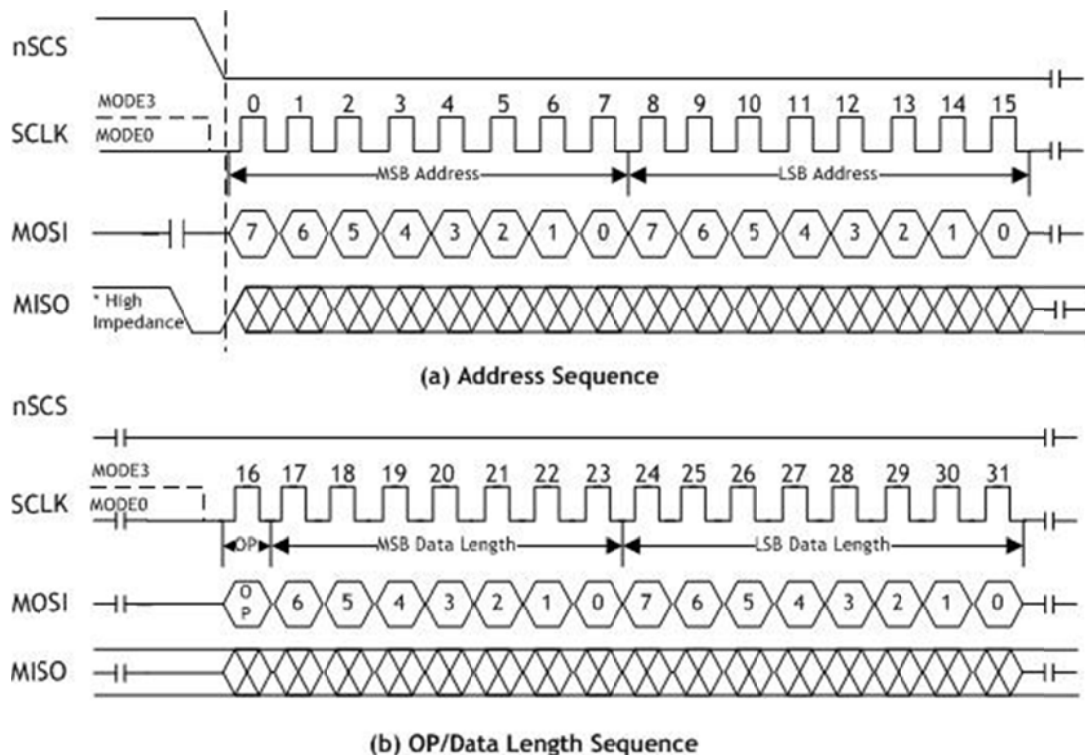
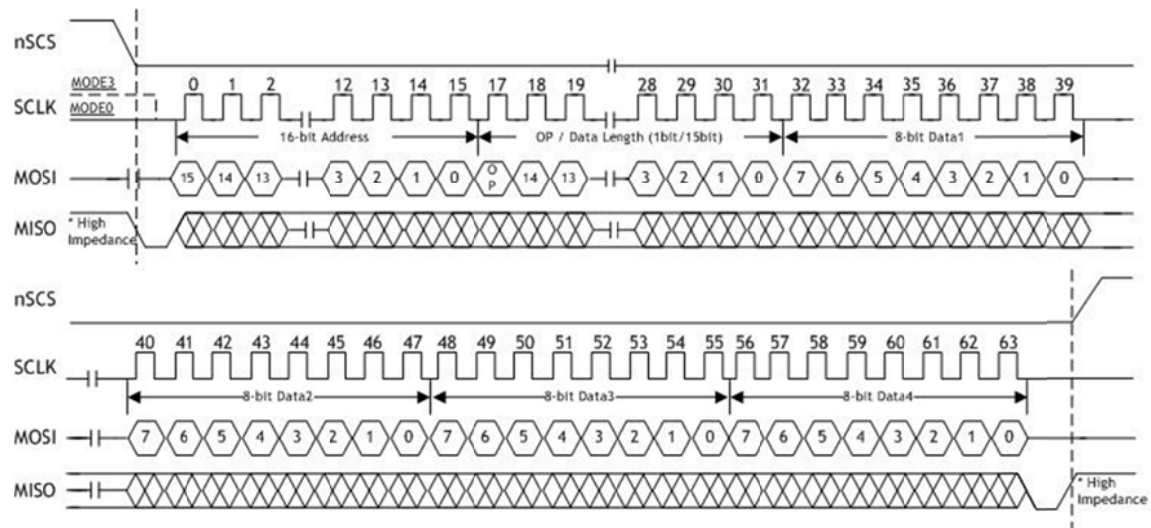

Figure 19 Address and OP / DATA Length Sequence Diagram
Figure 20 READ Sequence
The READ Processing Sequence Diagram is shown in Figure 20. The READ processing is entered by driving nSCS low, followed by the Address, the OP code, the Data Length and the Data byte on MOSI. The Address, the OP/Data Length Sequence Diagram and the Data are shown in Figure 19. The OP code (OP) is defined type of the READ OP and WRITE OP. On OP = 0, the read operation is selected. Otherwise, the write operation is selected. In W5200 SPI mode, the Byte READ processing and the burst READ processing are provided. The Byte READ processing takes 4 instructions which consist of the 16-bit Address, the 1-bit OP code (0x0), the 15-bit Data length and 8-bit Data. Otherwise, The Burst READ processing only takes the Data instruction after the setting of the burst read processing. To distinguish between the Byte READ and the burst READ processing, the Data length is used. If the Data length is '1,' the Byte READ processing is operated. Otherwise, the Burst READ Processing is operated when the Data length is more than two. The MISO pin should be selected by driving MISO low after the falling edge of the nSCS.